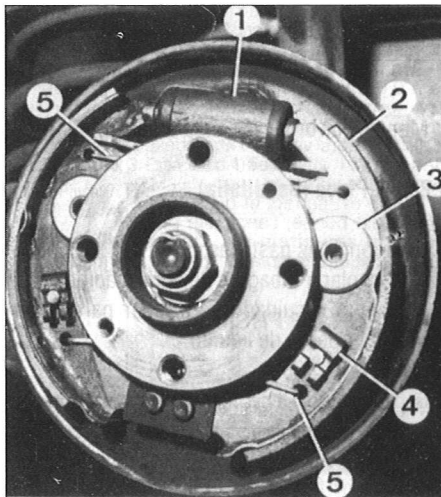

Fig. 87
8.2.2.2. Cilindro receptor (1, Fig. 87)